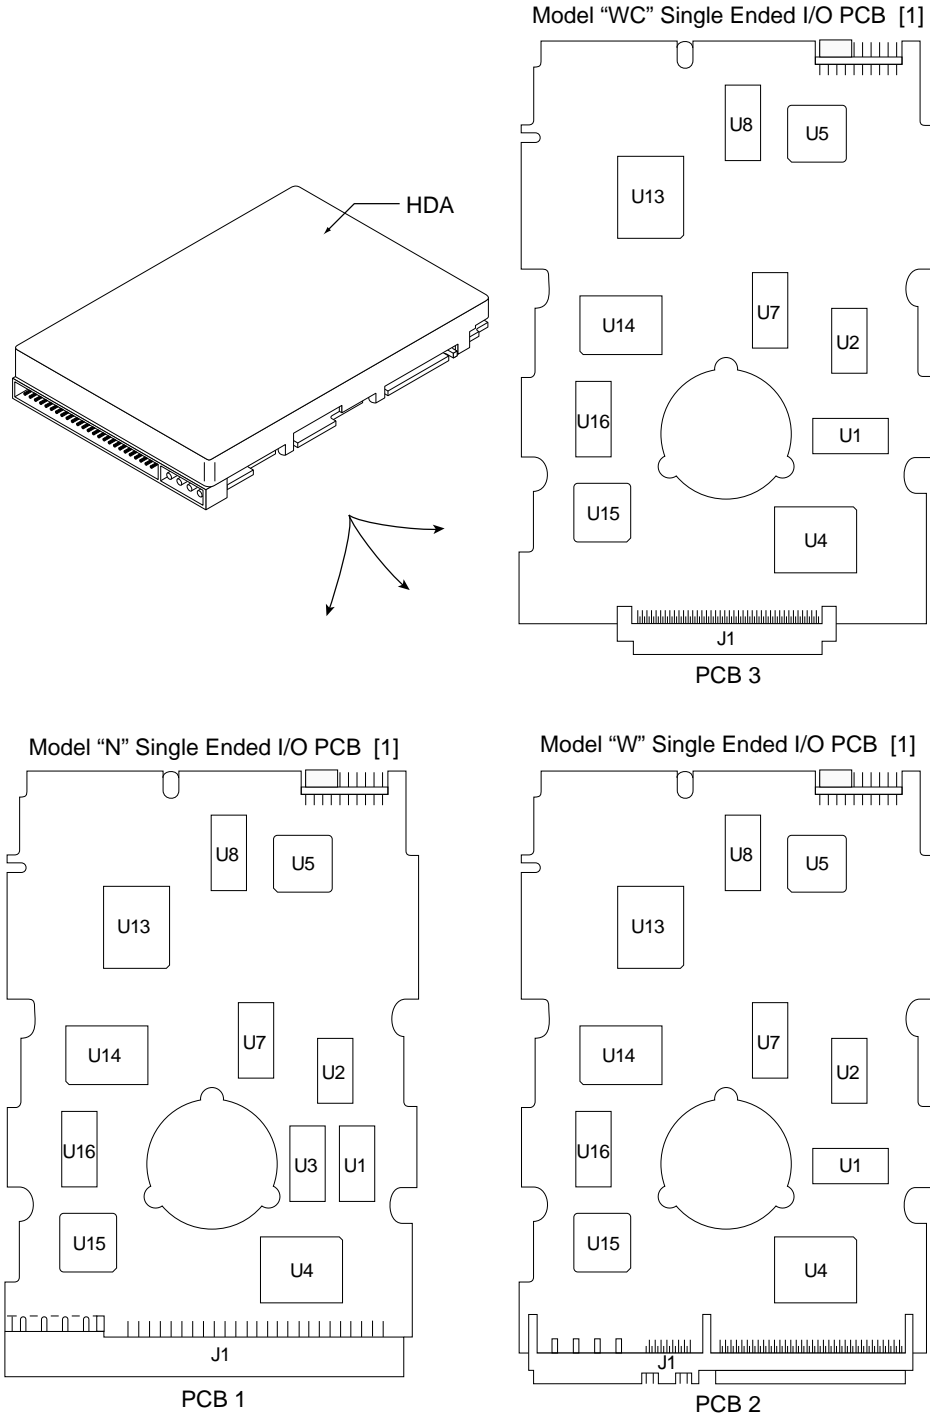

Figure 4. Locations of components (listed in Table 3)
Table 3: Temperatures PCB and HDA (see Figure 4)
- [3] Measure HDA temp at point labeled "HDA" on Figure 4.